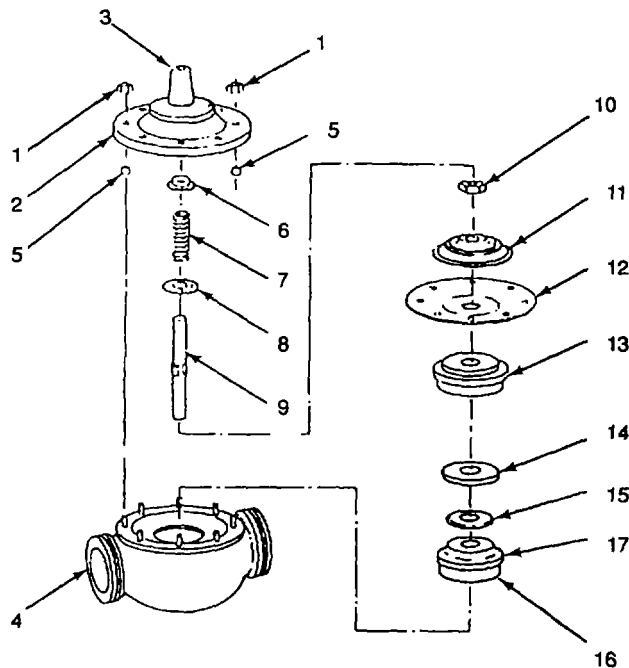

Figure 5-3. Main Valve Assembly
- (3) Lift main valve assembly (5) from the skid (6).
- (4) Remove nuts (7), flat washers (8), and studs (4).
- (5) Remove flat washers (9) and nuts (10) from studs (4).
- b. DISASSEMBLE (Figure 5-3).
- (6) Secure lower end of valve stem (9) (on diaphragm and disc assembly) in vise with soft jaws.
- (7) Examine threads above stem nut (10) for signs of corrosion or mineral deposits. If needed, clean threads with wire brush before removing nut.
- (8) Remove stem nut (10).
- (9) Remove diaphragm washer (11), diaphragm (12), disc retainer (13), and disc (14) from valve stem (9).
- (10) Pry disc (14) from disc retainer (13). Remove disc (14).
c. **INSPECT (Figure 5-3).**
- (1) Inspect threads for damage. If threads are damaged, replace main valve body (4).
- (2) Inspect seating surface on valve body. If worn, replace valve body (4).
- (3) Inspect valve stem (9) for corrosion and scale. If needed, use crocus cloth moistened with water to clean valve stem.
e. **ASSEMBLE (Figure 5-3).**
- (1) Install disc (14) into disc retainer (13).
- (2) Install disc (14), disc retainer (13), diaphragm (12), and diaphragm washer (11) onto valve stem (9).